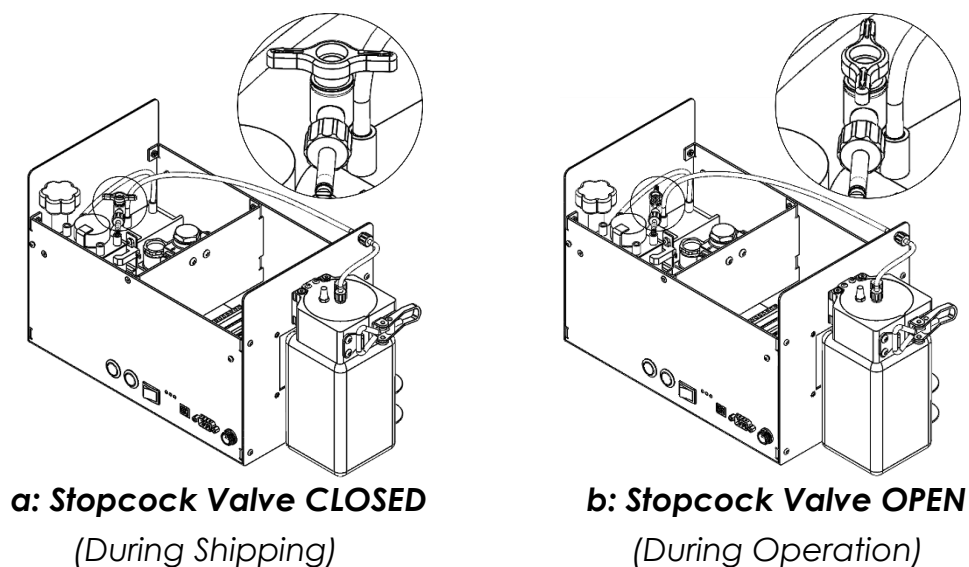

Figure 6
- 3) Open the stop cock valve. The valve must be OPEN (see Figure 6) when the printer is in function, otherwise the secondary tank can burst or leak.